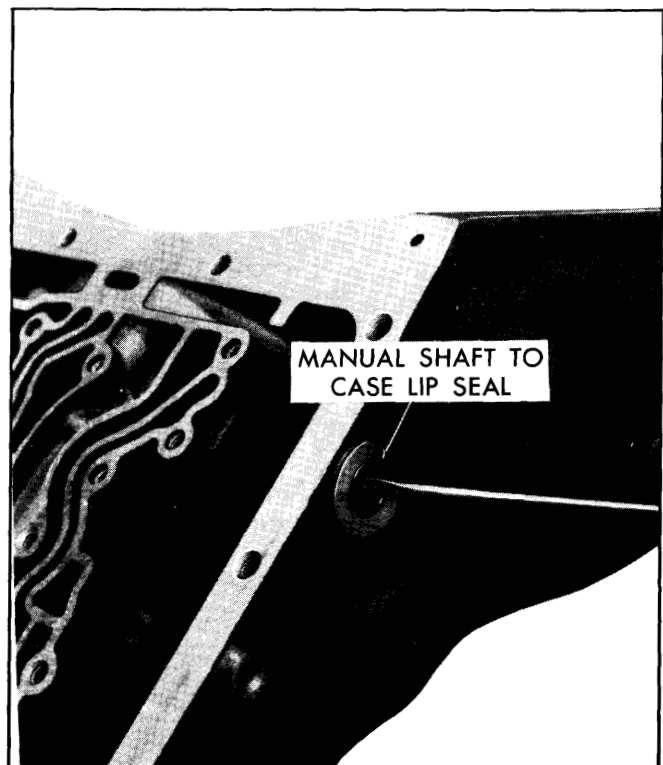

Fig. 7-28—Removing Manual Shaft to Case Lip Seal
13. Remove manual shaft to case lip seal (Fig. 7-28) if replacement is required.